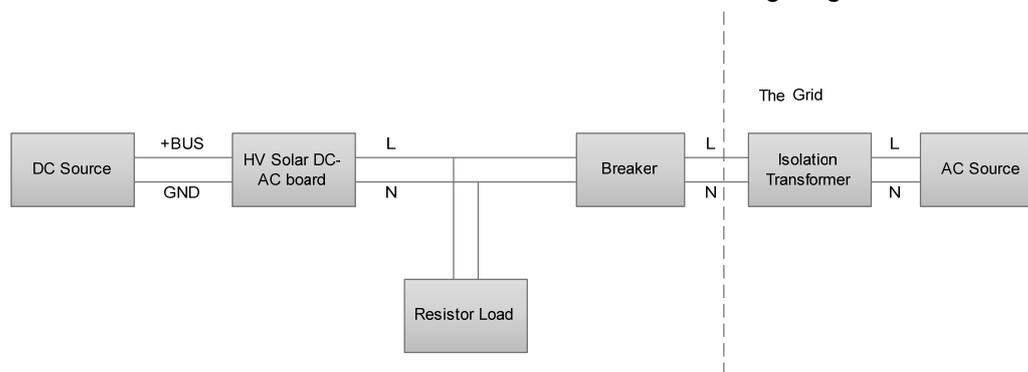

Fig 2.1 The connection of the test
The first test can be the off-grid test, then the breaker in Fig 2.1 will be opened. The inverter will take the resistor load without the grid support. The program will set the inverter output to be the constant frequency(60Hz) and constant current automatically when the grid is not connected to the inverter's output.
1. Connect all the equipment and the board as shown in Fig2.1.